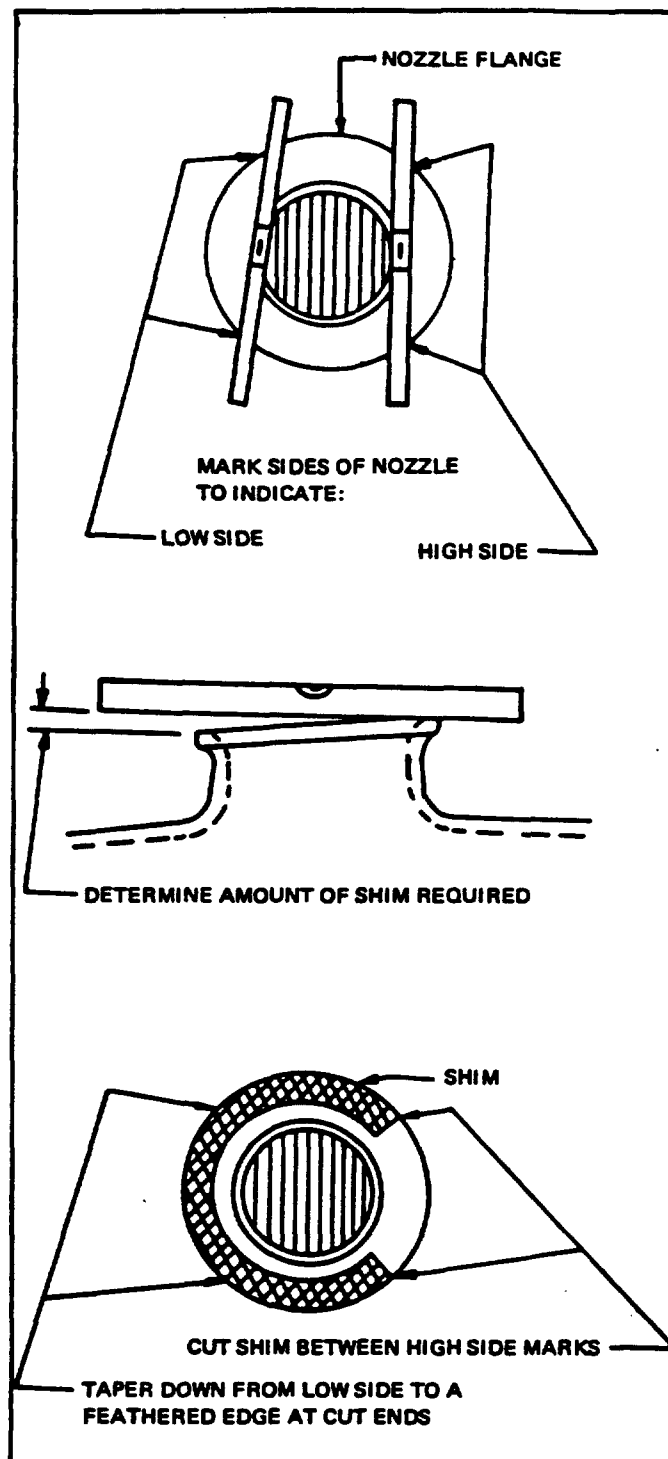

Figure 16. Shimming the Agitator Nozzle Gasket
2. Work around nozzle with a spirit level to locate high and low sides. Mark them as shown in Fig. 16.